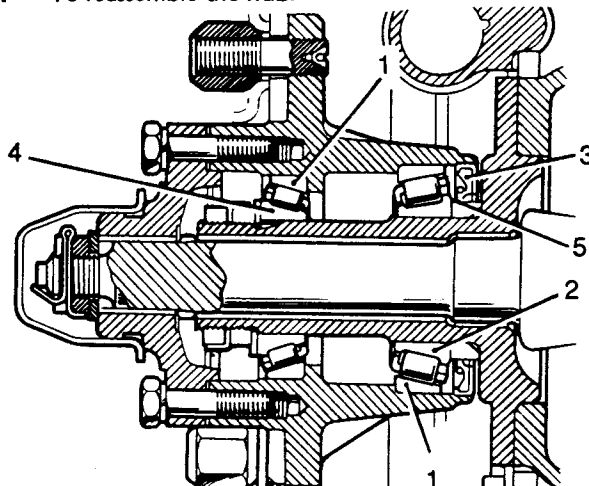

Fig J1.47
- (1) Refer to Fig J1.47. Press the bearing outer races (1) wide side first, into the hub, ensuring that they abut the locating shoulders.
- (2) Grease and fit the inner roller bearings (2). Do not pack the hub centre with grease.
- (3) Refit the oil seal (3) using jointing compound and fitting the seal flush with and not below the rear face of the hub.
- (4) Replace the outer roller bearing (4).
- (5) Replace the hub assembly (see Sub-sub-section J1.4, Chapter 6).